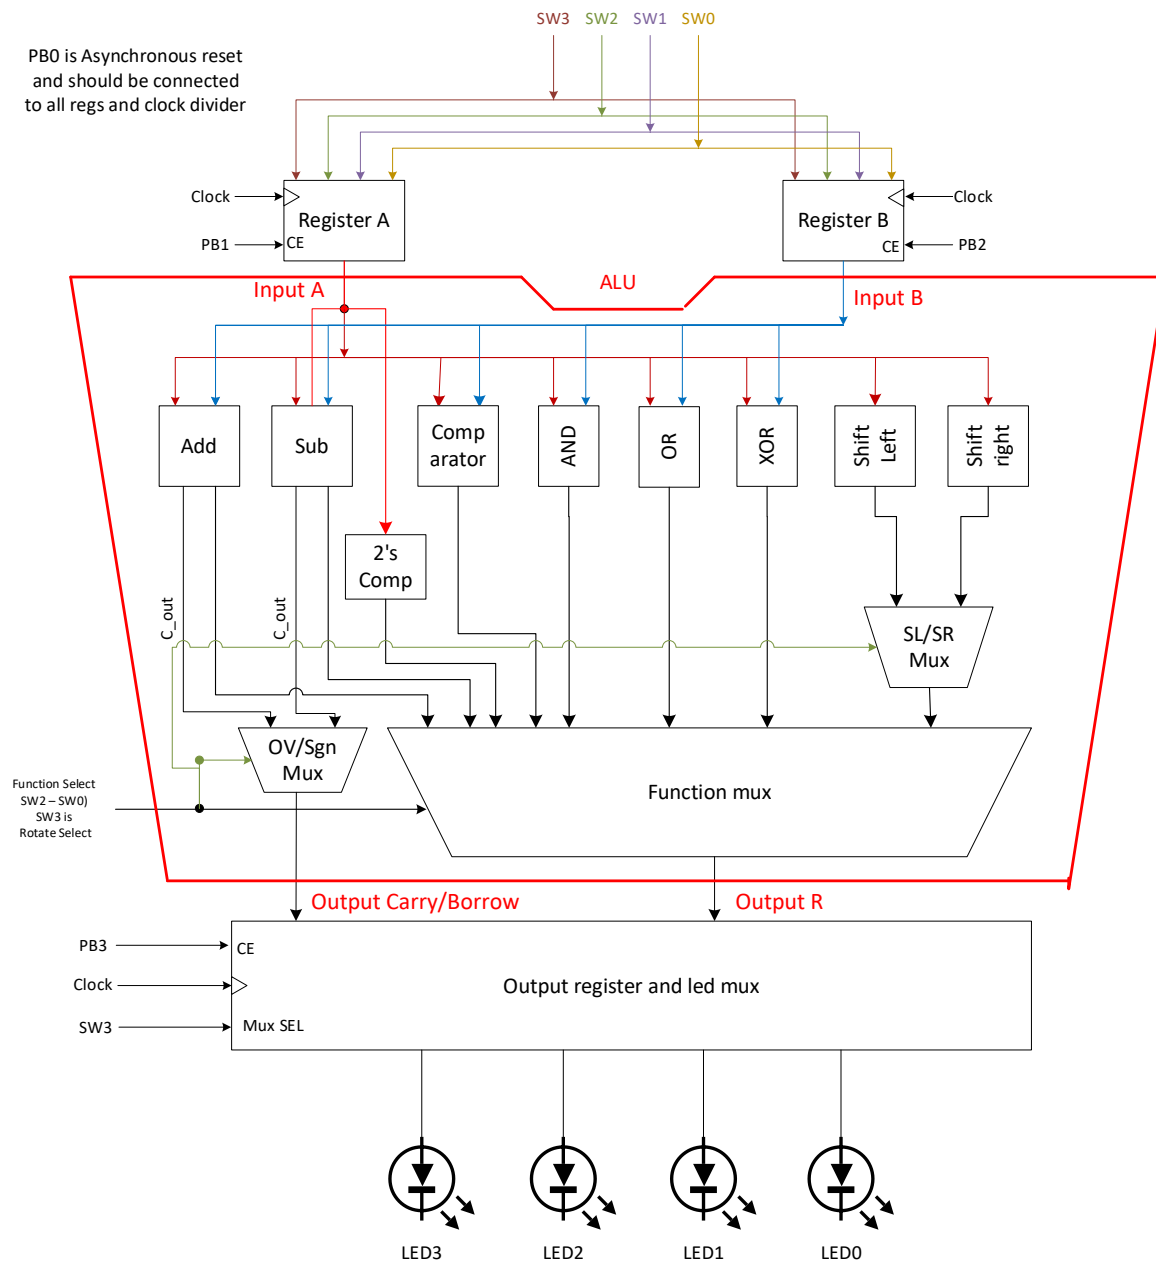

Figure 1 - ALU Block Diagram
In this Project you will design an Arithmetic and Logic Unit (ALU) that implements 8 functions, as shown in Figure 1. The unit should operate on unsigned numbers only and running at a 25kHz clock. The resulting output will be displayed on the 4-leds on the Zybo board.
6. Create the top module "*alu.v*" that has the same ports as the ALU shown in Figure 1 (inside the red box). Inputs A and B, and the output R should be defined as generic n-bit wide vectors.
- Instantiate each one of the components within the *ALU architecture* once. Make sure they are instantiated to only operate on 4 bits. Connect the outputs of the Adder, Subtractor, and two's Complement internal units to the inputs of the "*func_mux*". Make sure to follow the order of the mux inputs as given in Figure 1. Connect the overflow bit of the adder and the sign bit of the subtractor modules to the 2-to-1 MUX, and make sure to assign the least significant bit of the *Function Select* ALU input as the select input to the 2-to-1 MUX.
- For the remaining logic operations, use continuous assignments then connect appropriate signals to the "*function_mux*" inputs in the same order given in Table 1 and Figure 1.
7. Write a wrapper and call it “*ALU_Top.v*” that instantiates and interconnects, the Alu of Figure 1, a register for input A, another register for input B, an output register (called “*out_reg*”), and LED_Mux called “*led_mux*”. The wrapper port definition is:
8. Synthesize the design. Review the elaborated schematic to make sure the RTL design synthesized mimics the RTL design shown in Figure 1. Annotate it in reference to the designed components